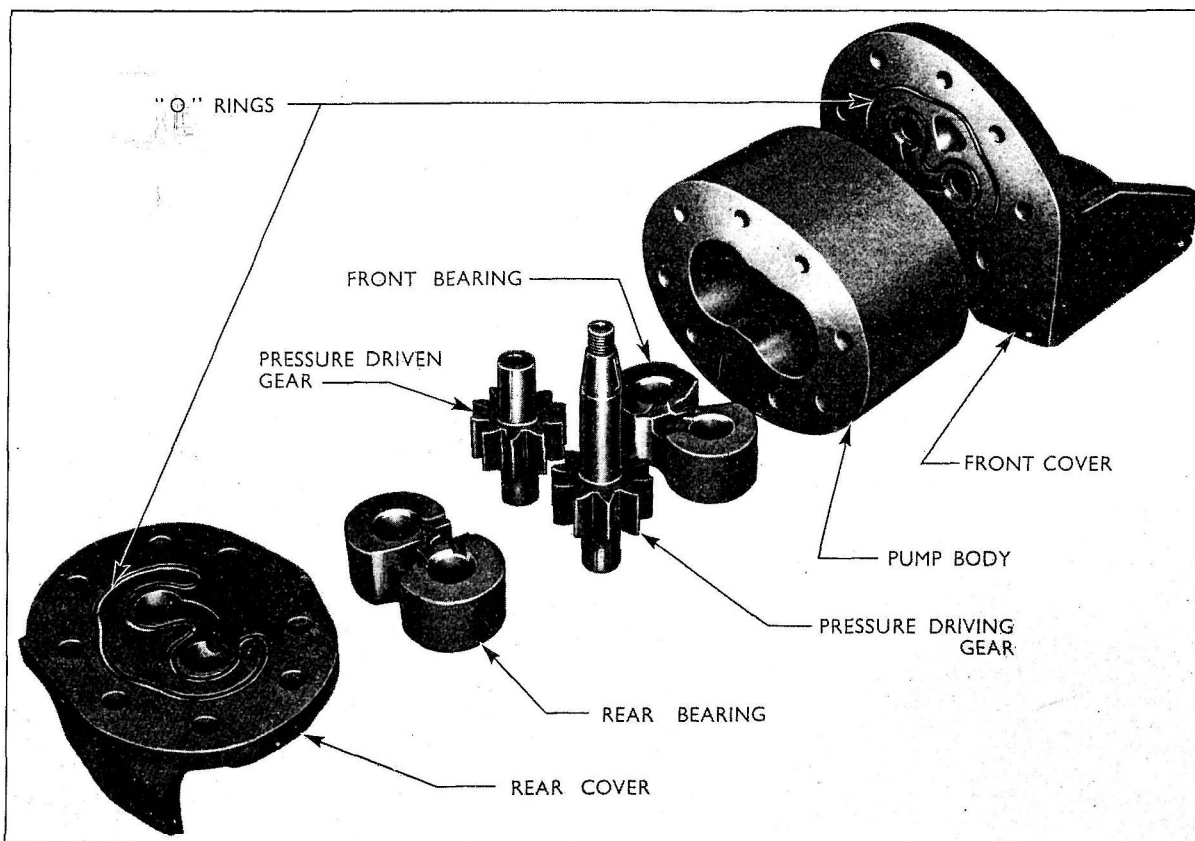

Fig. 42 Hydraulic Pump Body, Gears and Bearings
The two bearings, although of similar appearance are not identical and they must be assembled in correct relationship to the gears and housings. The pump main body should be placed on the bench on its side and the gears and bearings arranged as shown in Fig. 42. In this position the right-hand (front) bearing will have the small run-out slots from the oil ducts at the upper end of the right-hand (high pressure) ducts and the lower end of the left-hand (low pressure) duct.
1. With the right-hand (front) bearing in the position shown in Fig. 42, i.e. with the plain side of the bearing downwards and the run-out from the bores to the **left** (i.e. low pressure side of pump) assemble the pump pressure driven gear to the further bore of the bearing.